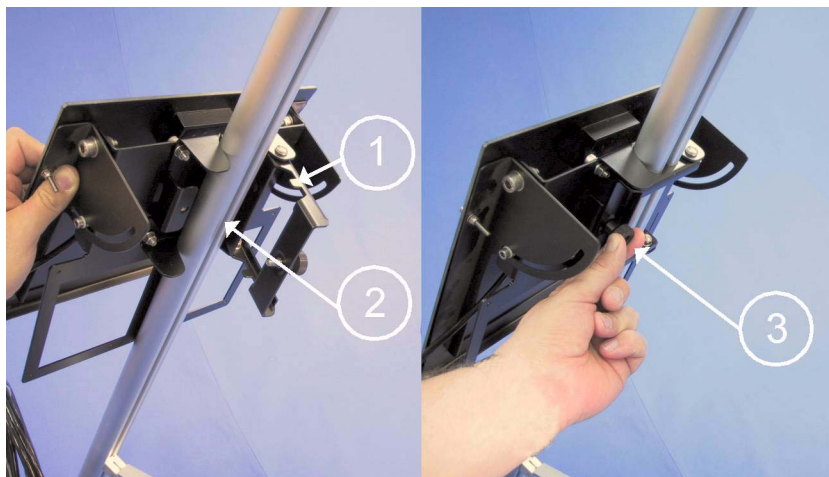

Figure 49 Solar Panel Fixture
2. Place the solar panel towards the leg approximately 40 cm (1.3 ft.) down from the upper plate of the tripod. Make sure that the shelf (number 1 in Figure 49 on page 67) fits to the leg profile (2). When the panel is at suitable height, tighten the hand screw (3).